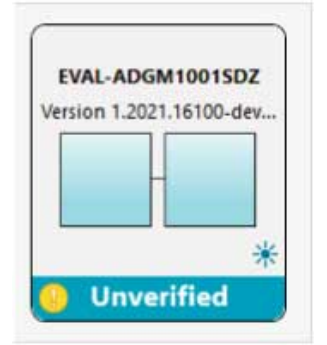

Figure 3. Evaluation Board View of the EVAL-ADGM1001SDZ
7. Double-click on the EVAL-ADGM1001SDZ board plug-ins to open the evaluation board view in Figure 3.